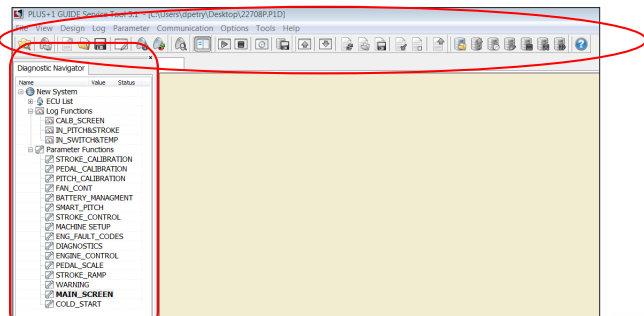

Figure 15. WST Tool Bar
- The new screen will have both navigation and tool bars active (Figure 15).